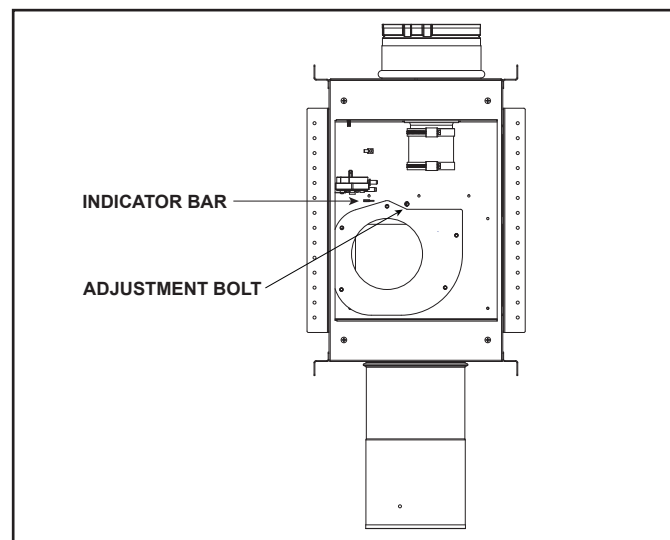

Figure 4.12 Baffle Adjustment Location - PVI-SLP
**PVI-SLP:** The baffle adjustment is measured using the holes on the indicator bar of the PVI-SLP baffle. This bar raises as the baffle is opened and lowers as the baffle is closed. Adjust the baffle by turning the screw located in the motor enclosure. See Figure 4.12 and 4.13.